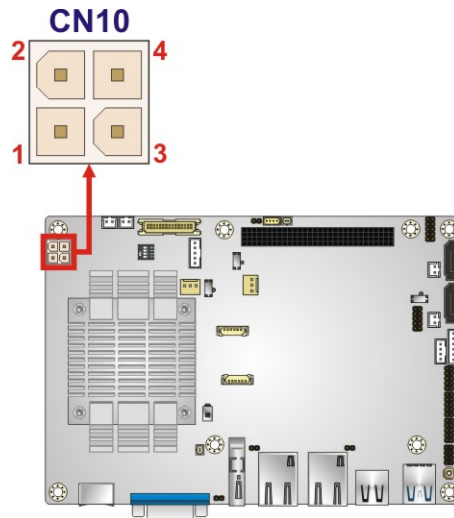

Figure 3-3: CPU Power Connector Location
- CN Location:**    See **Figure 3-3**